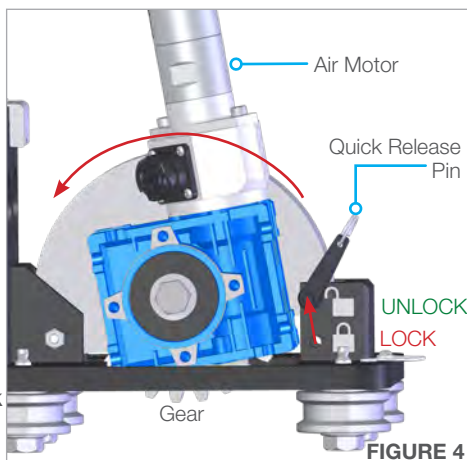

FIGURE 4
4. Remove the **Quick Release Pin** from the *locked* position, pull back on the air motor to lift the gear, and insert the **Quick Release Pin** into the *unlocked* position. This will allow the **Horizontal Drive Carriage** to slide onto the rail without pneumatic power. Center the carriage on the top rail, pull out the **Quick Release Pin**, let the gear drop into place and verify the gear is engaging the slotted rail correctly. Replace the **Quick Release Pin** into the *locked* position. **(Figures 4 & 5)**